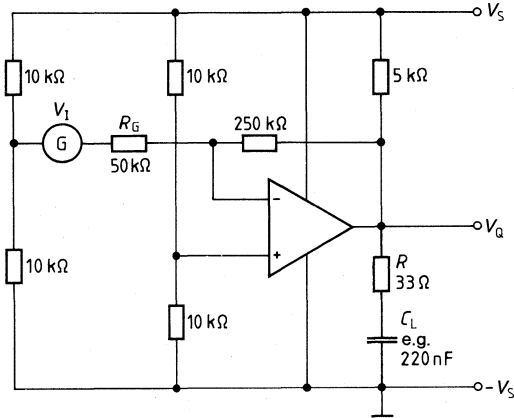

Figure 2
- Stronger or additional frequency compensation (**figure 2**)